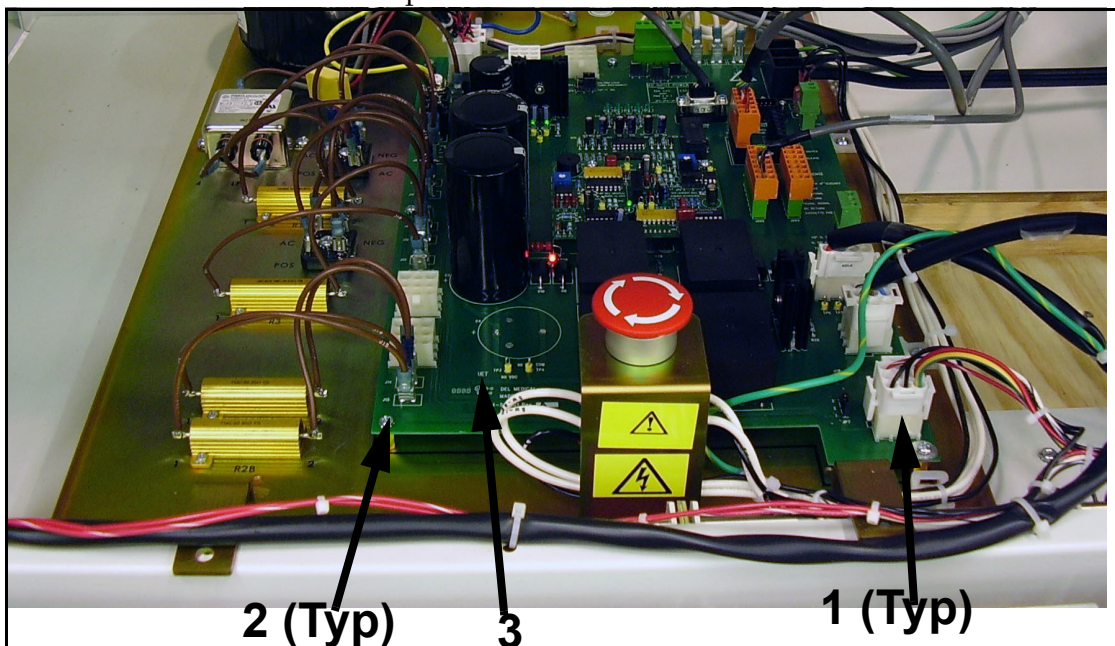

Figure 6-3. Front Chassis Screws
- 3 Unplug the connectors (1 in Figure 6-3).
- 4 Unscrew all mounting screws (2) and remove the board.